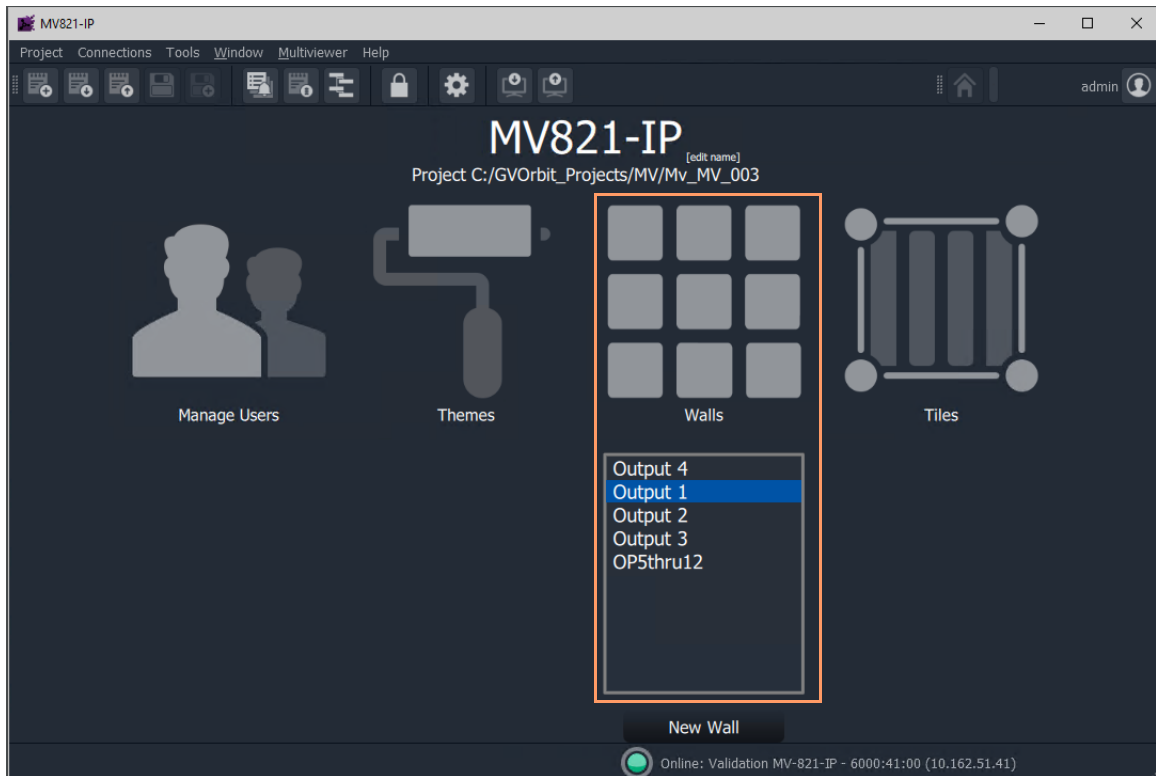

Fig. 7-19: Project Open in GV Orbit
- 1 Click the large **Walls** icon and select a wall item in the list, for example, 'Output 1': See Figure 7-19.